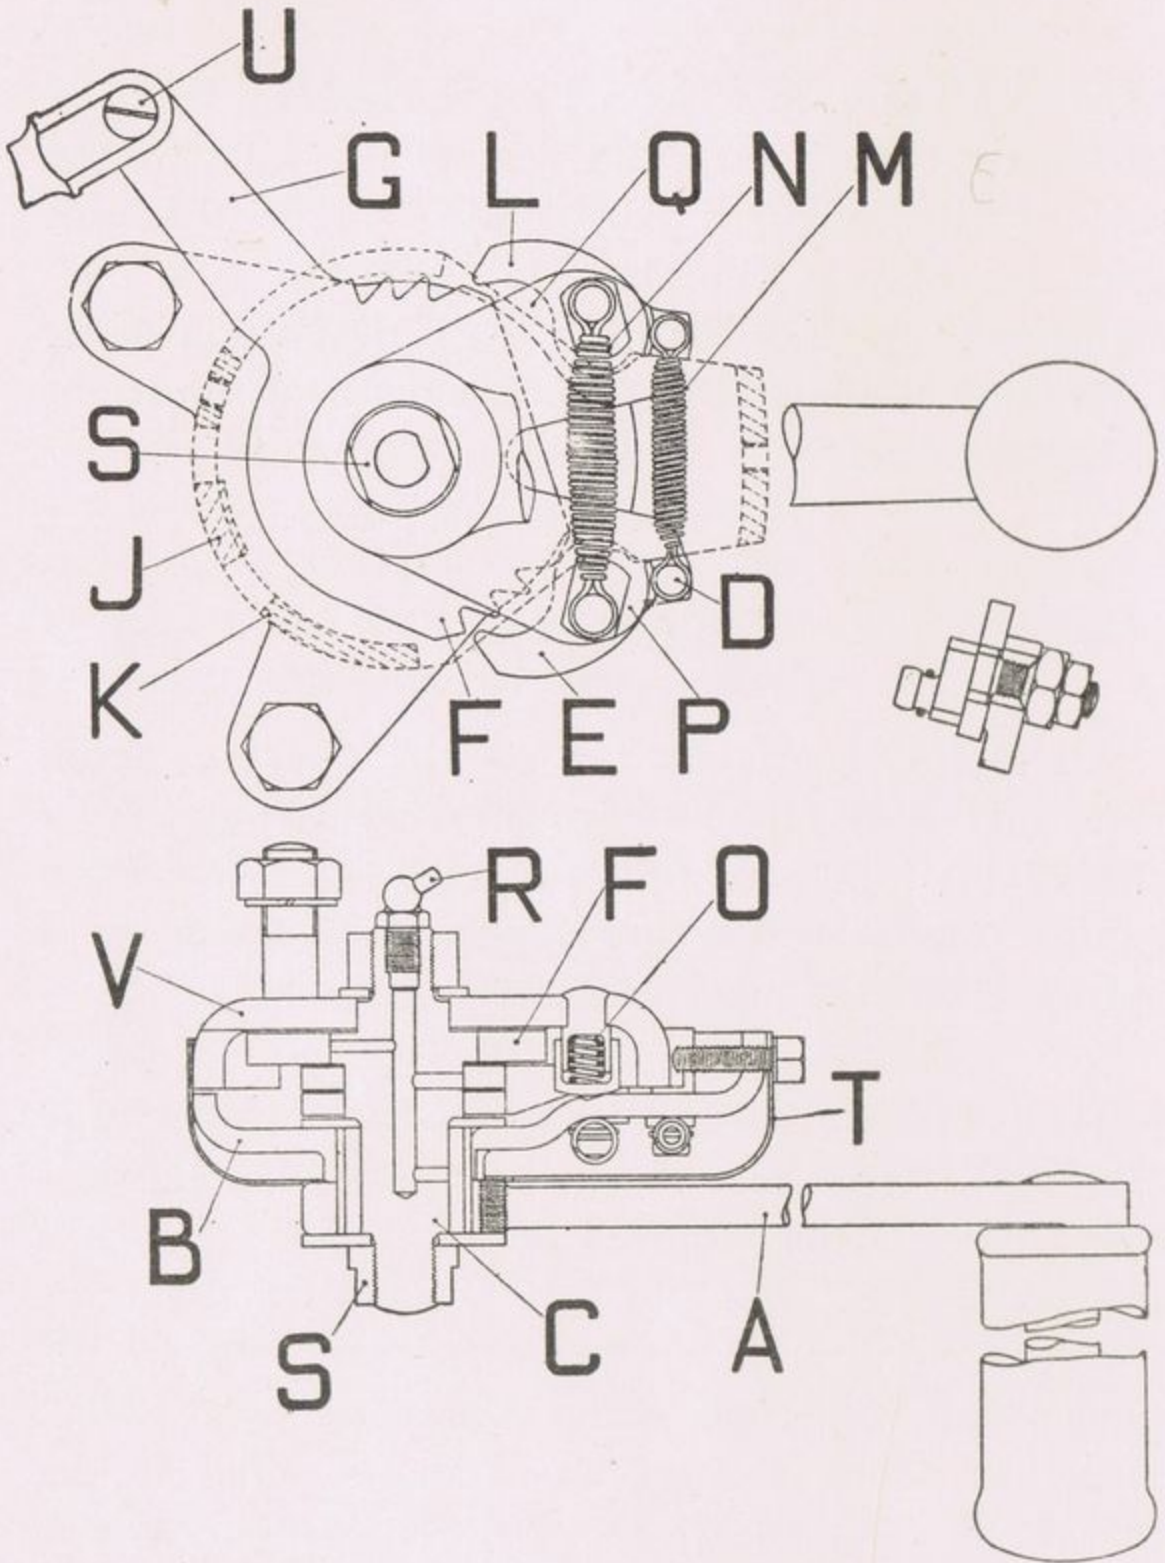

Fig. 20.
**FOOT GEAR CHANGE—separate unit type** (Fig. 20). The only attention apart from lubrication, likely to be required is the replacement of a broken spring. Remove nut *S*, take off the large washer behind it and replace the nut to hold the mechanism together while removing the pedal. Draw off pedal *A* using an extractor screw in the tapped hole in the pedal and remove the screws holding cover *T* in position thus exposing the springs. Remove broken springs and fit new spring with the aid of a pair of pliers. To dismantle the mechanism completely proceed as above and having taken off springs and screw *U*, withdraw the remaining parts from the fixed shaft cover, taking care not to lose the plunger and spring at *O*. When